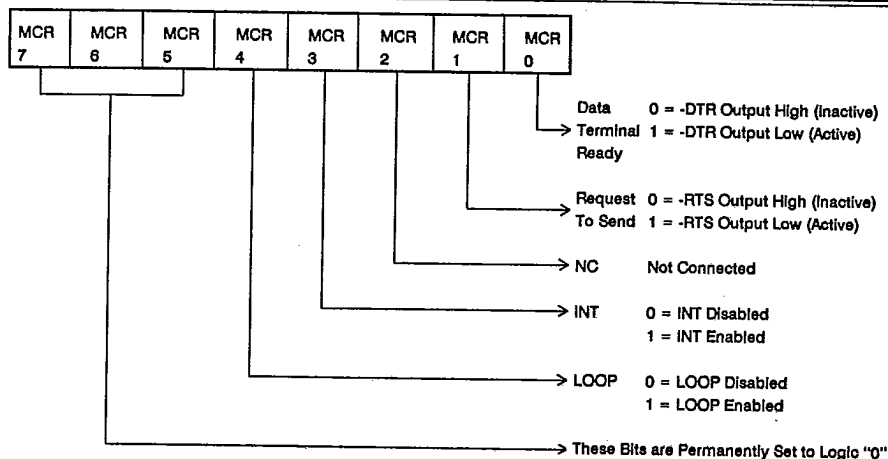

Figure 4. Modem Control Register
The Modem Control Register (MCR) controls the interface with the modem or data set as summarized in Table 5. Figure 4 illustrates the MCR. The MCR can be written and read. The -RTS and -DTR outputs are directly controlled by the bits MCR(1) and MCR(0) in this register. A logic high data input asserts a low (true) level at the output pins. MCR Bits bit functions are described below.